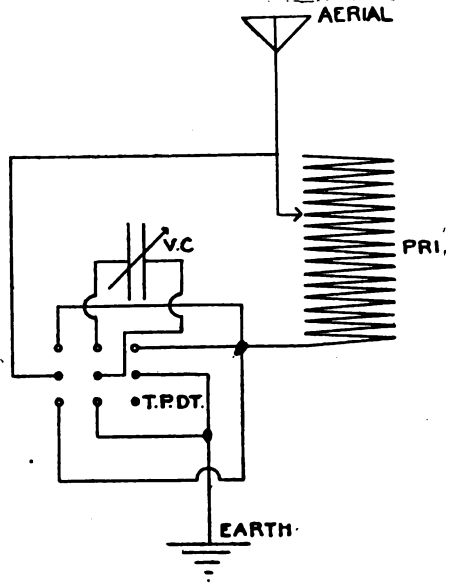

Fig. 2
Ans. (1) The result may be obtained by the use of a triple pole, double through switch, as per the diagram, Fig. 2.
Ques. (2) Is the auto-transformer, shown in Fig. 2 of the article on How to Conduct a Ra-
Ques. (4) Would the set shown in accompanying diagram work, and if so, would it give the same results as the one in Fig. 2, provided the crystal rectifier shown is as sensitive as the perikon? Fixed condenser FC and the local battery circuit have been dropped; otherwise the two are the same. The mineral used is, of course, one that does not require a local battery.